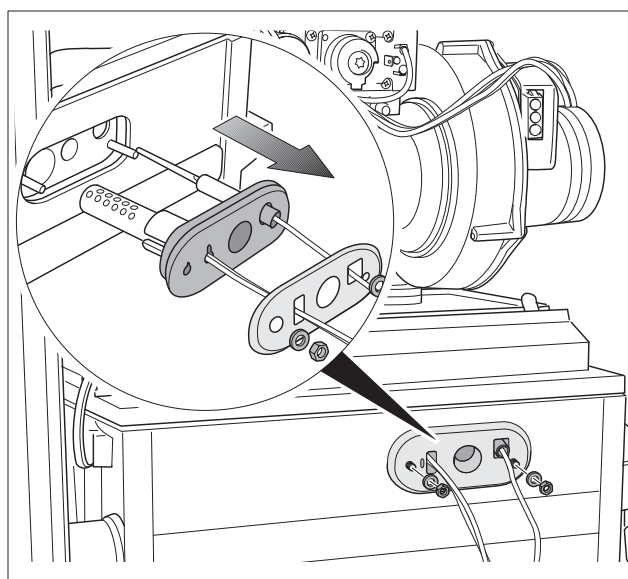

fig. 119 Removing the glow ignitor and the ionisation electrode
- Unscrew the 2 nuts (fig. 119).